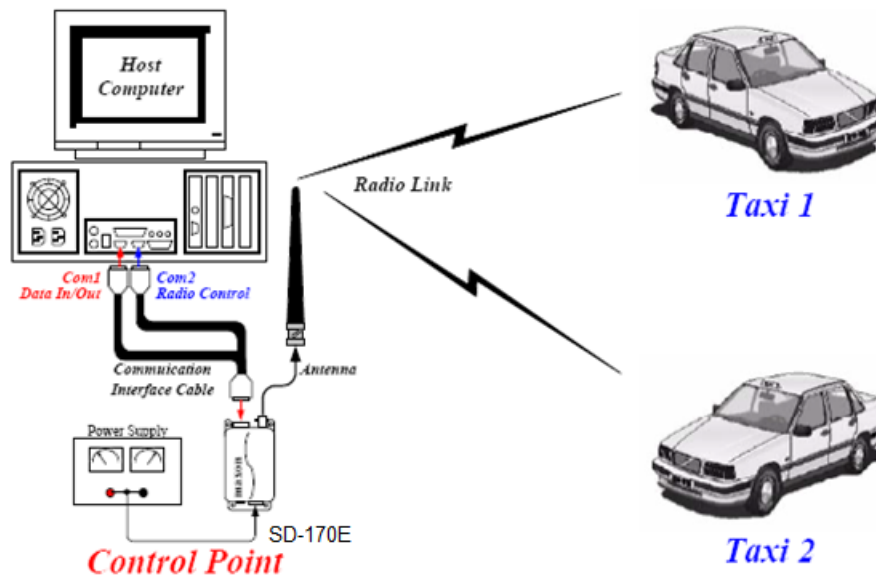

Figure 4.4. Job allocation and status reporting Application
4. Local area mobile system for job allocation and status reporting to and from taxis. (see Figure 4.4).